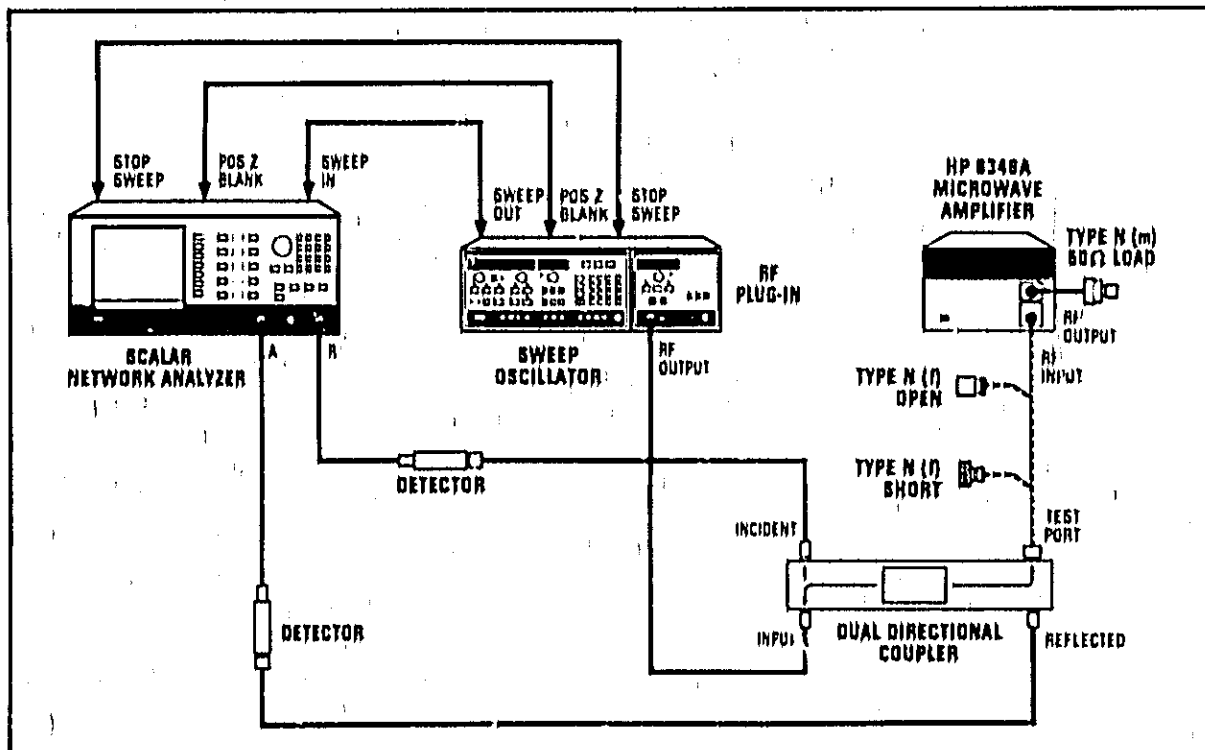

Figure 4-3. Input SWR Test Setup
In the Input SWR test, the equipment is set up as shown in Figure 4-3 and the network analyzer is set up for an A/R measurement. An open-short calibration is performed at the test port of the coupler and the calibration is stored into the network analyzer's memory. The network analyzer is set for measurement minus memory and the amplifier is connected to the coupler. The dB value of the maximum point on the network analyzer is determined and this value is then converted to SWR.
In the Output SWR test, the 2.0 to 18.0 GHz frequency range is tested in four separate 4 GHz bandwidths. This is done to increase the resolution of the network analyzer display. The dual directional coupler is set up as a single directional coupler and then a load is placed on the end of the air line (see Figure 4-3) to prevent any reflections from being seen at the coupled port. The signal at the coupled port is then stored into the network analyzer's memory. A short is then placed on the air line, the network analyzer is set to display measurement minus memory, and the maximum change in power is measured. System errors are corrected by measuring the system loss in one direction and then multiplying by two. Finally, through several calculations, the SWR of the amplifier is determined.
1. Connect the equipment as shown in Figure 4-3 with the short connected to the coupler's Test Port.